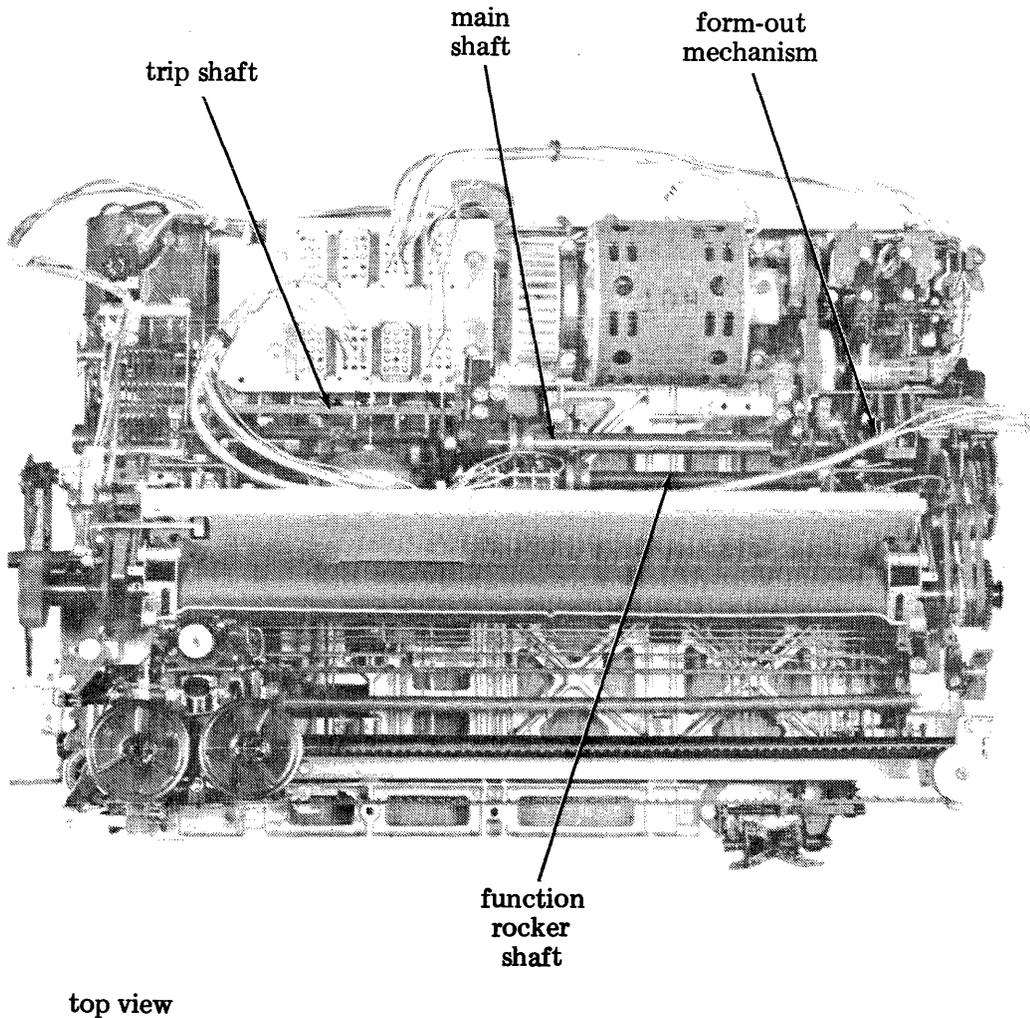

Figure 6 - Function Rocker Shaft
2.21 Remove function rocker shaft (Figure 6) as follows: